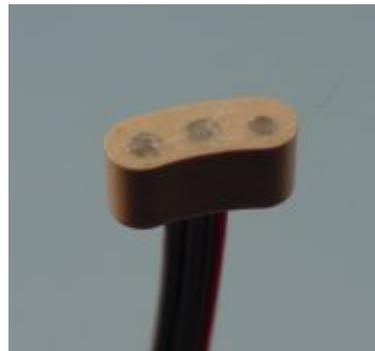

Figure 7 – Bock-style 3-socket connector
The LTI Linear Transducer (LT01/02) is supplied with a Bock-style 3-socket connector on the output cable (see Fig 7). When used with a Bock-style Quick Disconnect (QD) Wrist or Wrist Rotator, the output of the Linear Transducer is plugged into one of the 3-pin myoelectric input connectors on the back of the wrist coaxial plug.